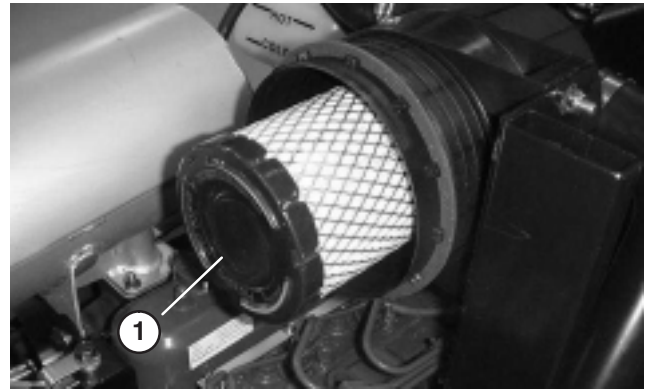

Figure 35
2. Gently slide filter (Fig. 35) out of air cleaner body to reduce the amount of dust dislodged. Avoid knocking filter against air cleaner body.